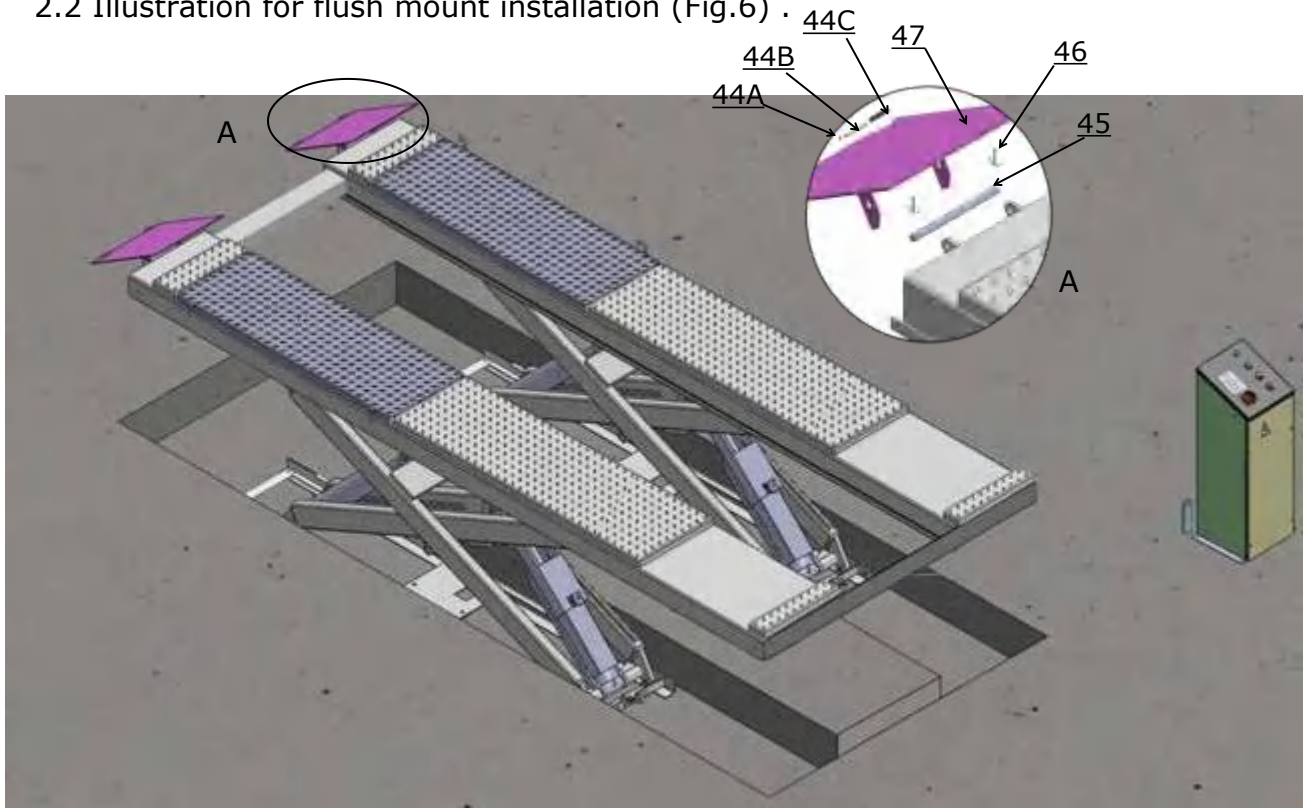

Fig. 6
2.2 Illustration for flush mount installation (Fig.6) .